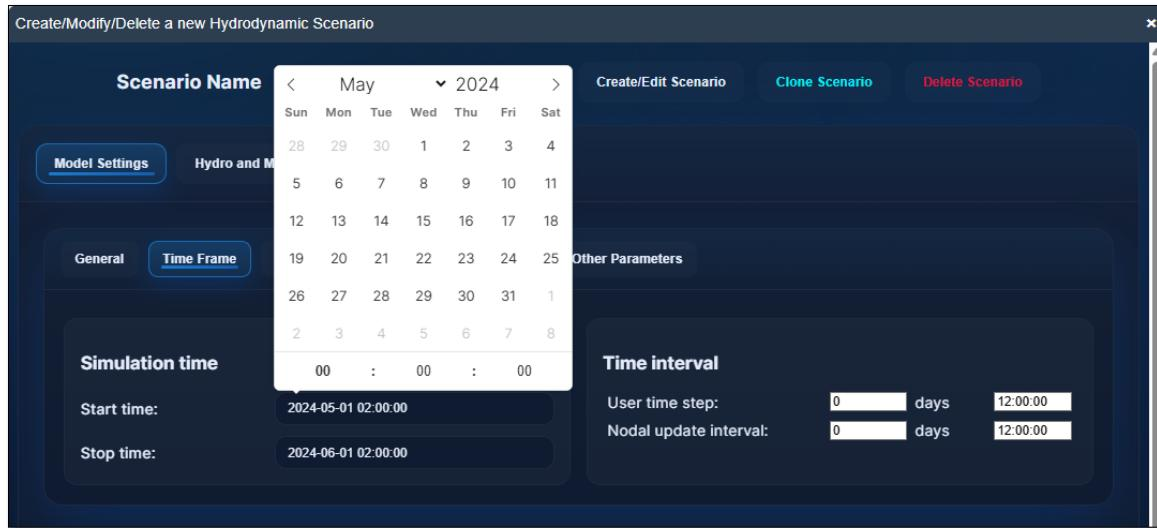

Figure 2.5. Set up the simulation period
- ❖ **Time Frame:** The user can select the simulation period and setup time interval during the simulation using this sub-tab (**Figure 2.5**).